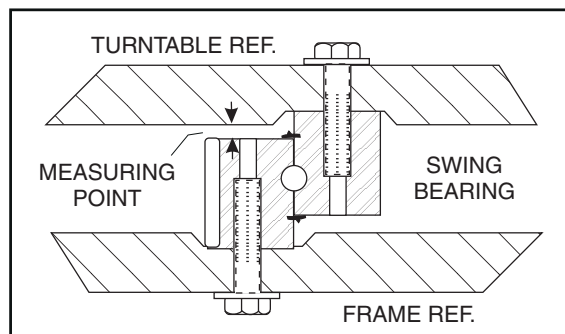
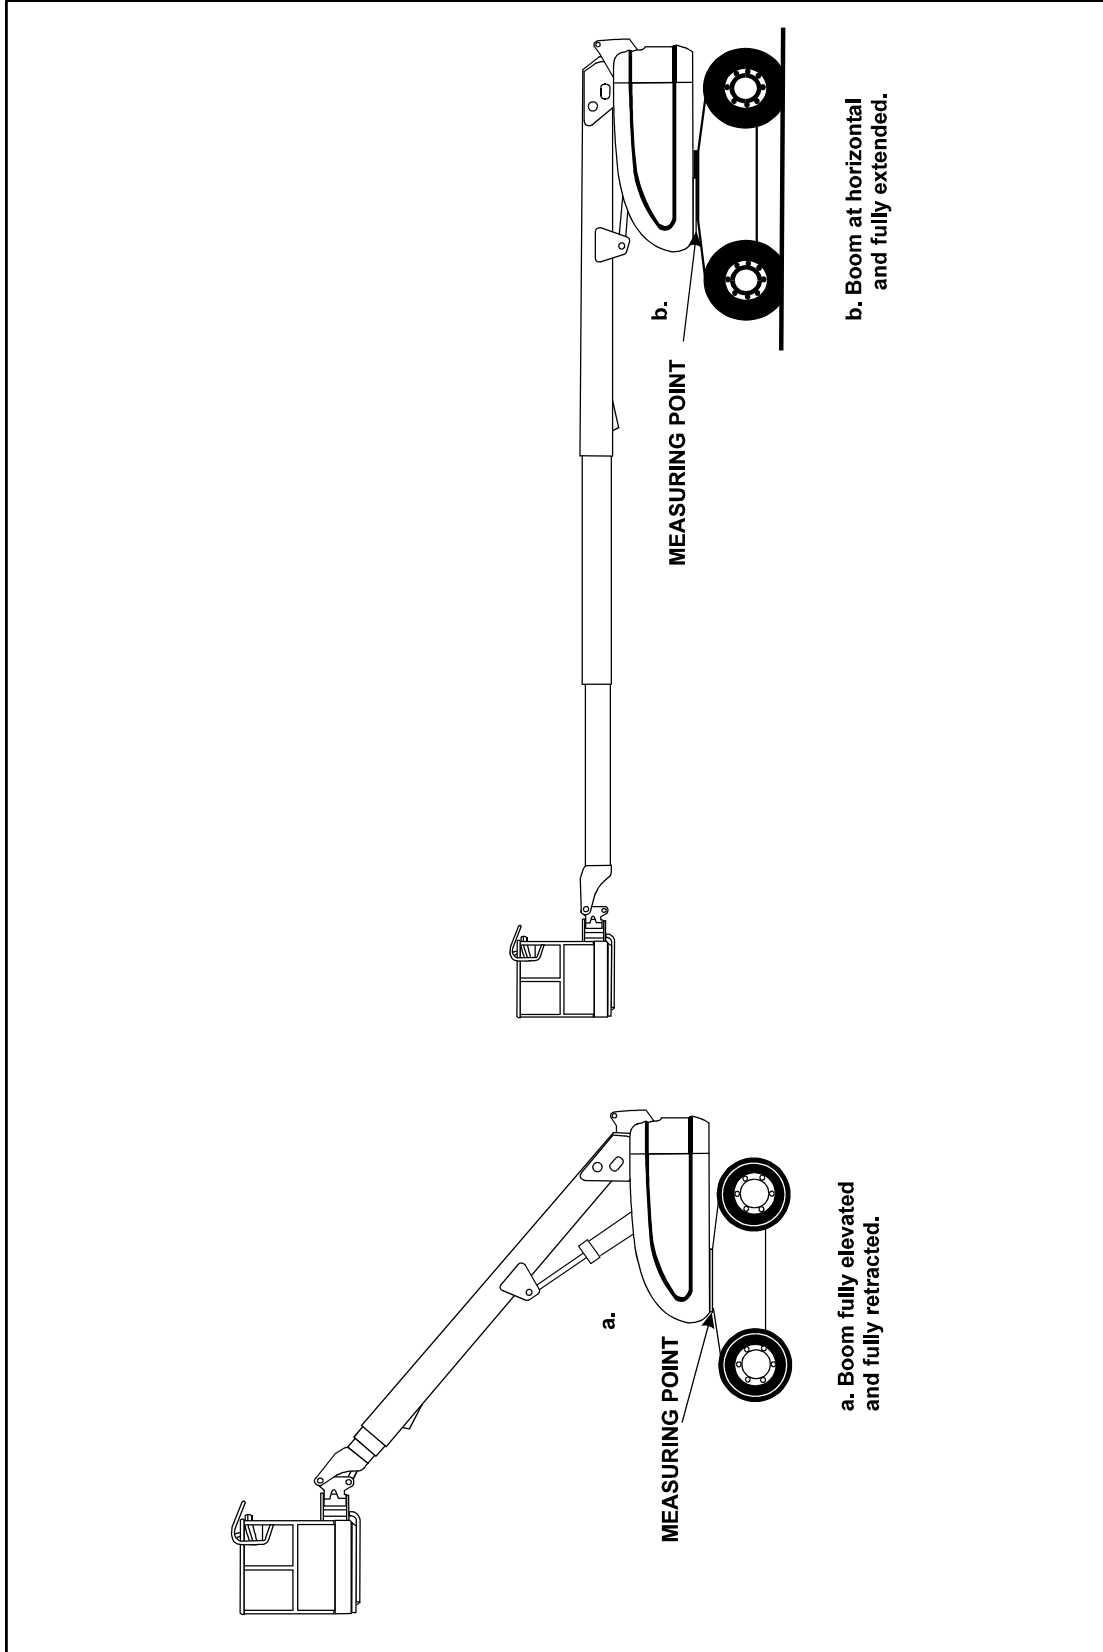

Figure 3-13. Swing Bearing Tolerance Measuring Point
Figure 3-14. Swing Bearing Tolerance Boom Placement
- From the underside of the machine, at rear center, with the boom fully elevated and fully retracted, as shown in (Figure 3-14., Swing Bearing Tolerance Boom Placement) A, using a magnetic base dial indicator, measure and record the distance between the swing bearing and turntable. (Figure 3-13., Swing Bearing Tolerance Measuring Point)
- At the same point, with the boom at horizontal and fully extended, and the tower boom fully elevated as shown in (Figure 3-14., Swing Bearing Tolerance Boom Placement) B, using a magnetic base dial indicator, measure and record the distance between the swing bearing and turntable. (Figure 3-13., Swing Bearing Tolerance Measuring Point)